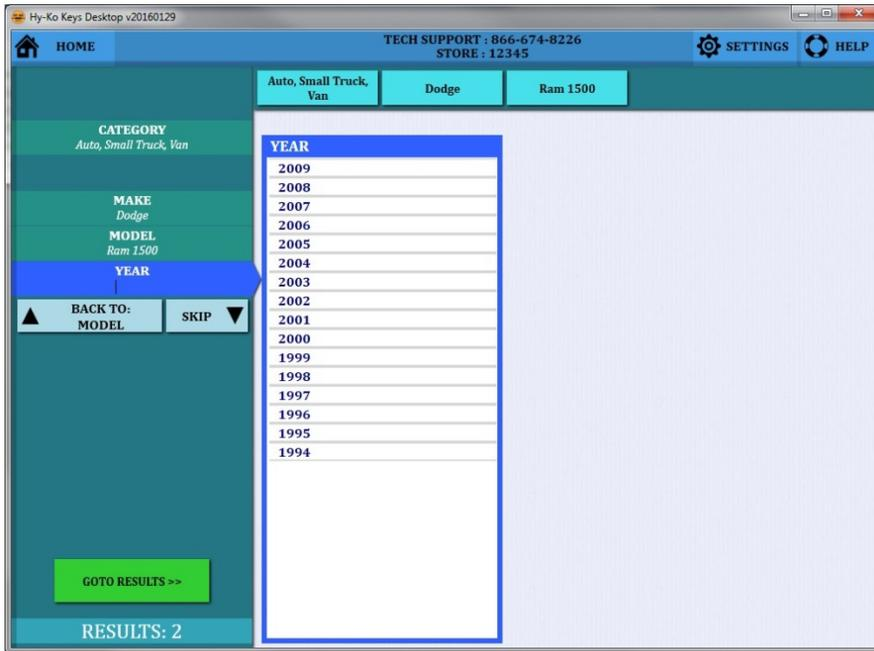

fig. 61
- Choose the Year by clicking on it from the list or by typing it in the 'YEAR' box on the left (see fig. 61).